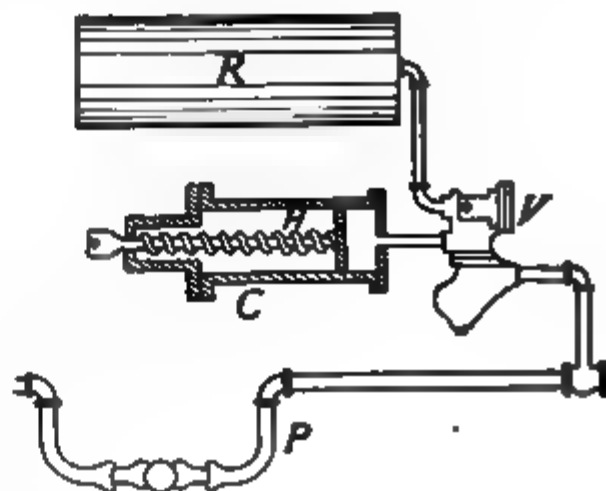

FIG. 50.—Cross-section of a Westinghouse air brake.
68. The Air Brake.—Compressed air is used to do work in many machines, such as pneumatic drills, hammers, and air brakes. The Westinghouse air brake (Fig. 50) uses air at a pressure of about 70 lbs. to the square inch. The essential parts as shown are a reservoir *R*, the brake cylinder *C* and a triple valve *V*, placed under each car with an air pipe *P*, leading to the engine. This is connected to *R* by the triple valve *V*. When the pressure in *P* is reduced by the engineer or by accident, the triple valve operates so as to admit air from *R* into the cylinder *C* pushing the piston *H* to the left. *H* is connected to the brakes by levers which press the brake shoes strongly against the wheels. When the air pressure in *P* is restored the triple valve acts